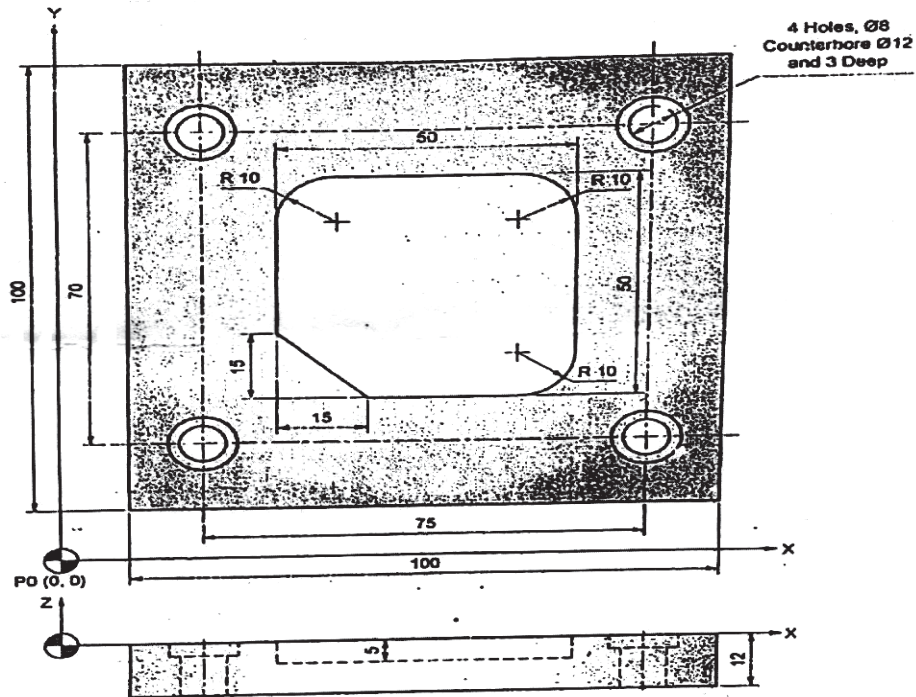

fig. 4a
**Q4)** a) Write a manual part program to machine the contour for the component shown in fig. 4a. and drill a hole. The thickness of component is 18mm. Assume suitable data. [12]